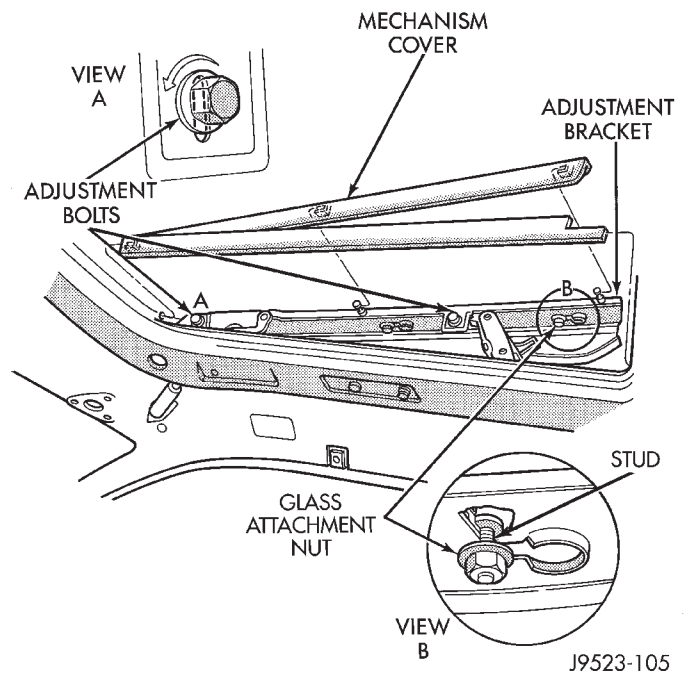

Fig. 4 Glass Adjustment
(3) Lift rear of adjustment bracket to highest vertical position and disengage front of bracket from unit (Fig. 4).